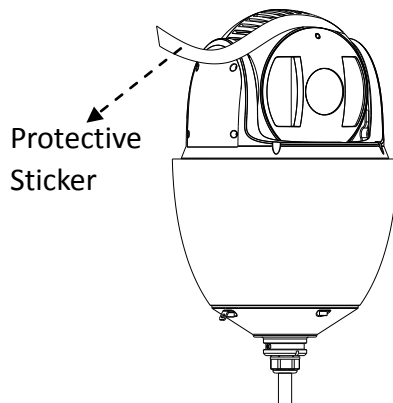

Figure 1-2 Protective Sticker
1. Remove the protective sticker as shown in Figure 1-2.